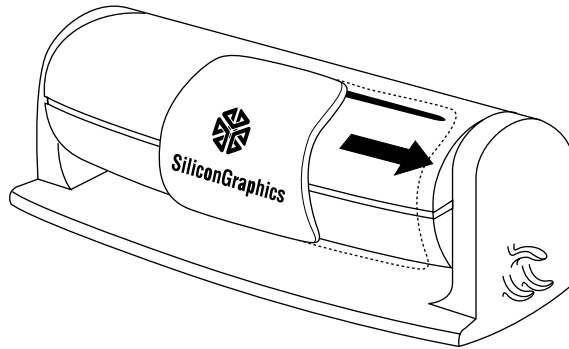

Figure 2-32 Opening the IndyCam Lens Cover
6. Slide open the plastic lens cover to expose the lens (Figure 2-32).